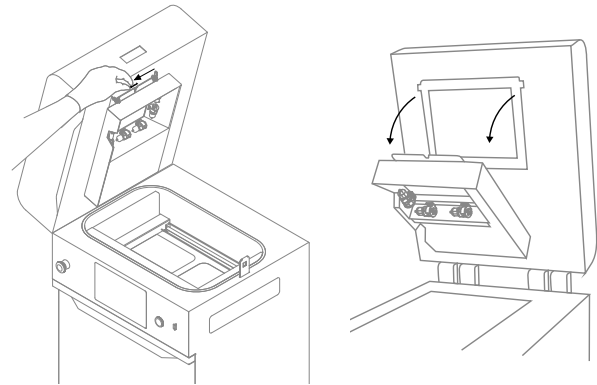

Fig. 13.100 Lower the heating module to access the reflector sealing.
8. Loosen the captive screw, if installed, or remove the split pin from the heating module. Don't lose it! (fig. 13.100)
9. Lower the heating module (fig. 13.100).